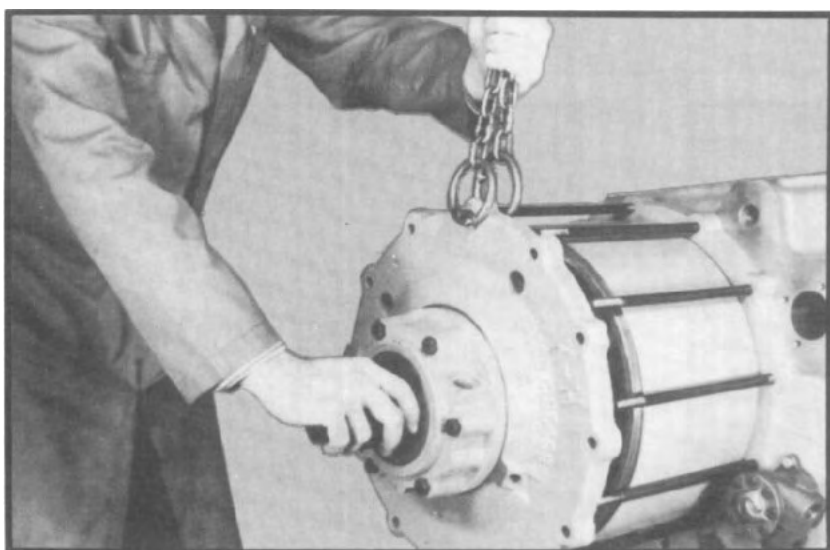

Fig. 134
- 2.27 Using a chain hoist, lift the differential cap assembly into place. Work the rear output shaft into the splines of the differential case. Be sure the oil drain plug is facing toward the bottom of the transfer case. Push the differential carrier cap onto the studs and tap the cap firmly against the differential housing. Housing must be seated evenly inside the differential cap. (See fig. 134.)